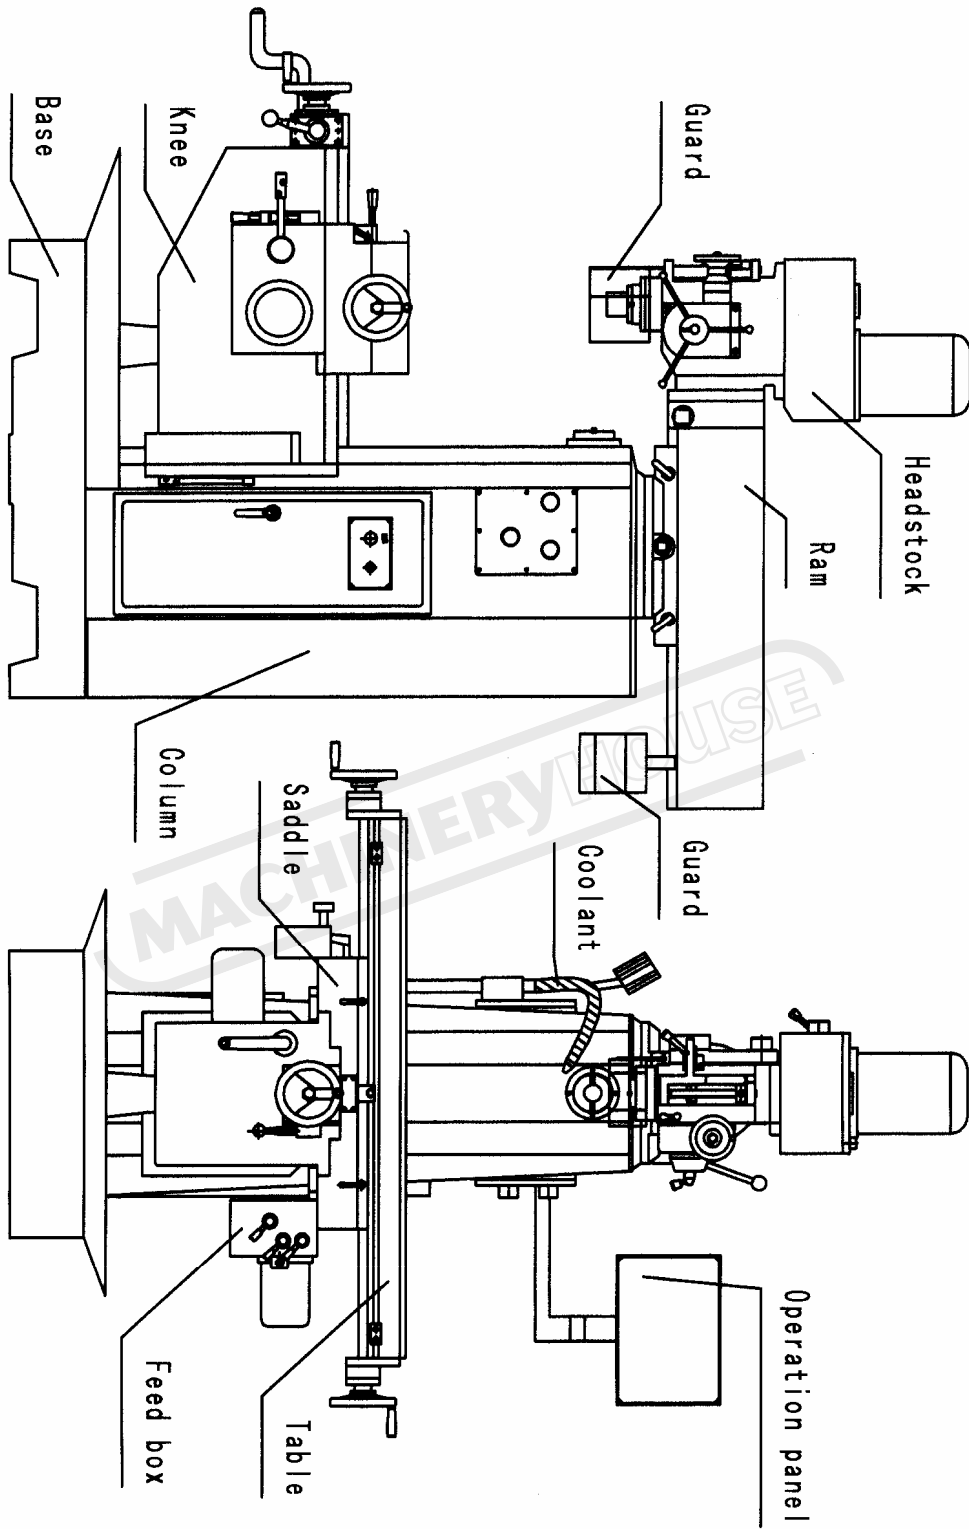

Fig. 1
The machine consists of body, knee, worktable, main transmission structure, feed box , ram, coolant, lubrication, electric apparatus and so on. ( fig.1)
First, make sure handle (6) on the left of the headstock is opposite to the position of handle (6) in Fig. 1, tighten right handle (5) to make bevel gear in handle base merge with worm, then turn the handwheel (10) in front of the headstock to realize the micro feed.
4.3.2 When the handle (5) is loose, two feed modes are provided: power feed, manual feed
First, ensure handle (5) is loose, adjust handle (6) to the position according to fig. 1. There are stopper and travel scale on the headstock, and they are used to stop spindle and control machining depth. Lockhandle (12) can clamp the spindle sleeve at any position.
4.3.3 Before starting the spindle, check whether handle (6) on the left of the headstock is opposite to the position of handle (6) in fig.1, and whether spindle quill is loosened, otherwise don't start machine .